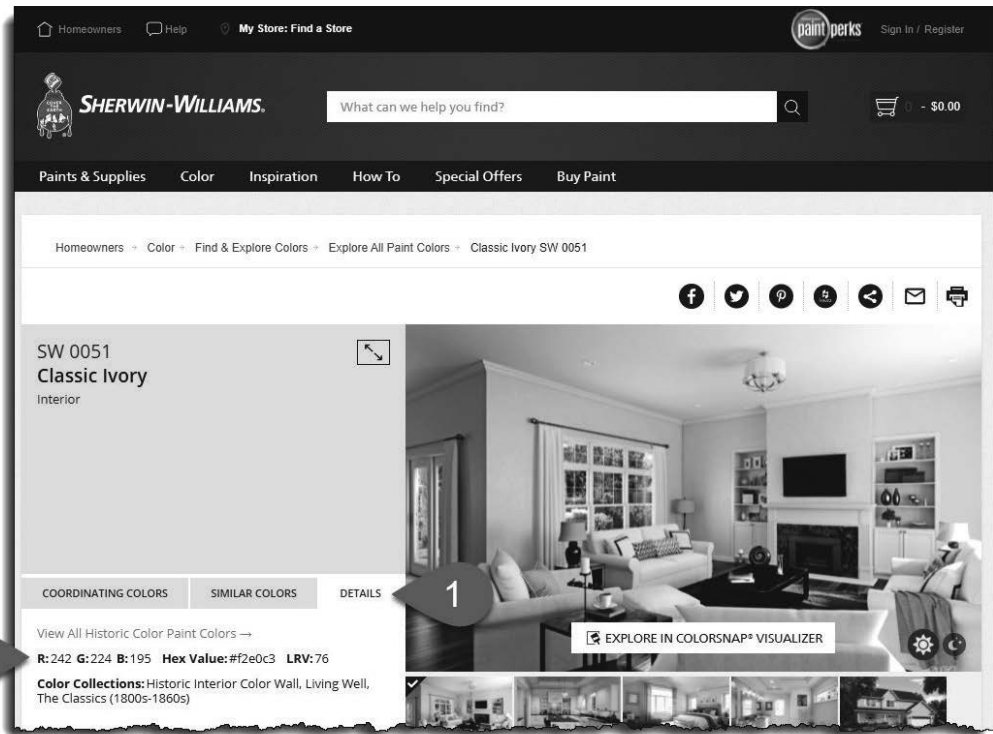

FIGURE 4-3.11 Sherwin Williams website
37. Click on the preview swatch for **Classic Ivory** and then click **Details** to see more information (Figure 4-3.11).
You should now see the information shown below (Figure 4-3.11). Notice the RGB Value listed: 242,224,195. These are the Red, Green, and Blue colors which make up the Classic Ivory color. This information can be entered into Revit materials for proper representation.